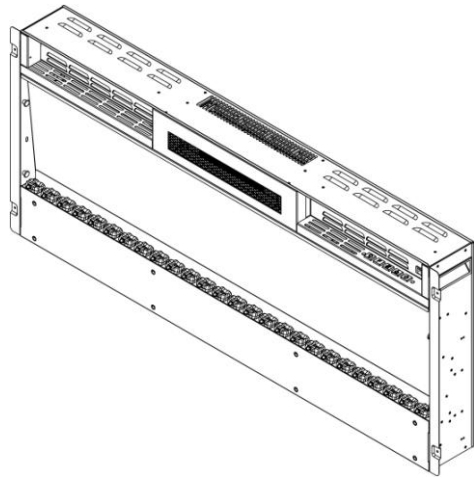
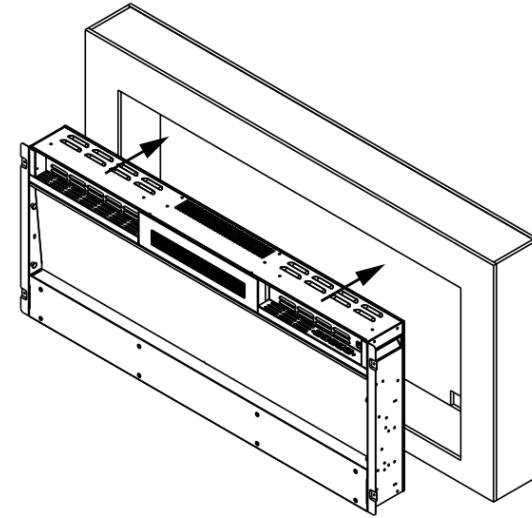

Fig.5
Fig.1
### Installation (see Fig1 ~ Fig 5)
- A distance of 600mm from the bottom of the heater to the floor is recommended for optimum viewing of the fuel bed; see Fig.1 below for recommended fixing dimensions.
- Fix the tempered glass with 2pcs of 4\*8mm screws provided.(Fig.5)
- Fasten two pcs of white screws on both sides.(Fig.5)
Please see Fig.1